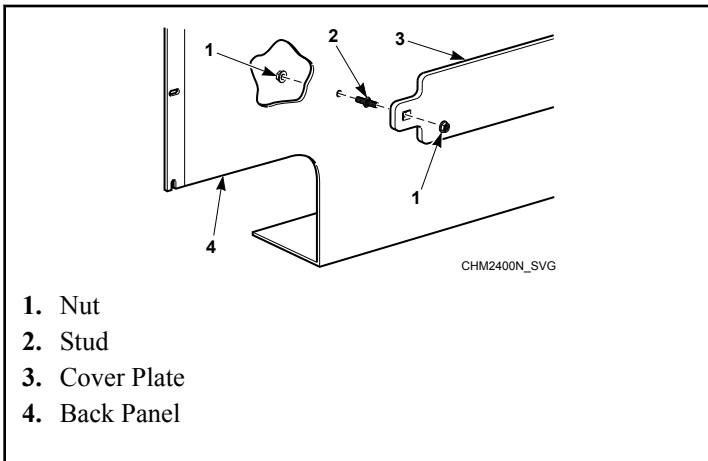

Figure 16
3. Remove all hardware holding cover plate on back panel, refer to *Figure 16*. DO NOT DISCARD HARDWARE.